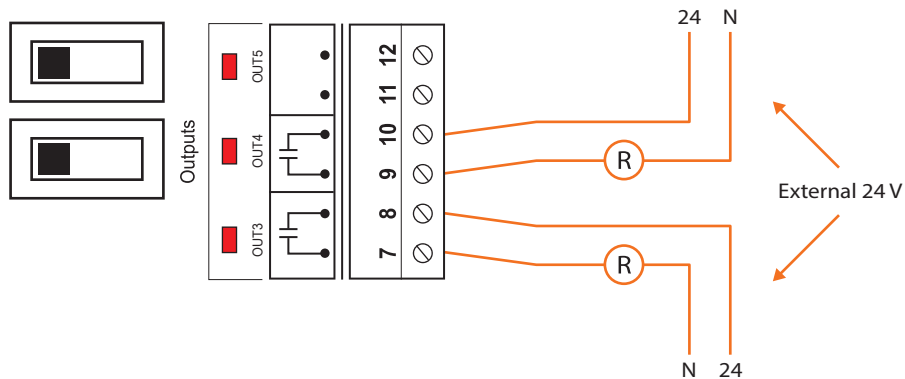

Figure 20 - Connection of Passive Outputs 3 and 4
2) Passive outputs. The C1000 opens and closes a contact to allow an external source to power the load (see Figure 20).
1) The C1000 powers the load and provides a control signal (see Figure 20)